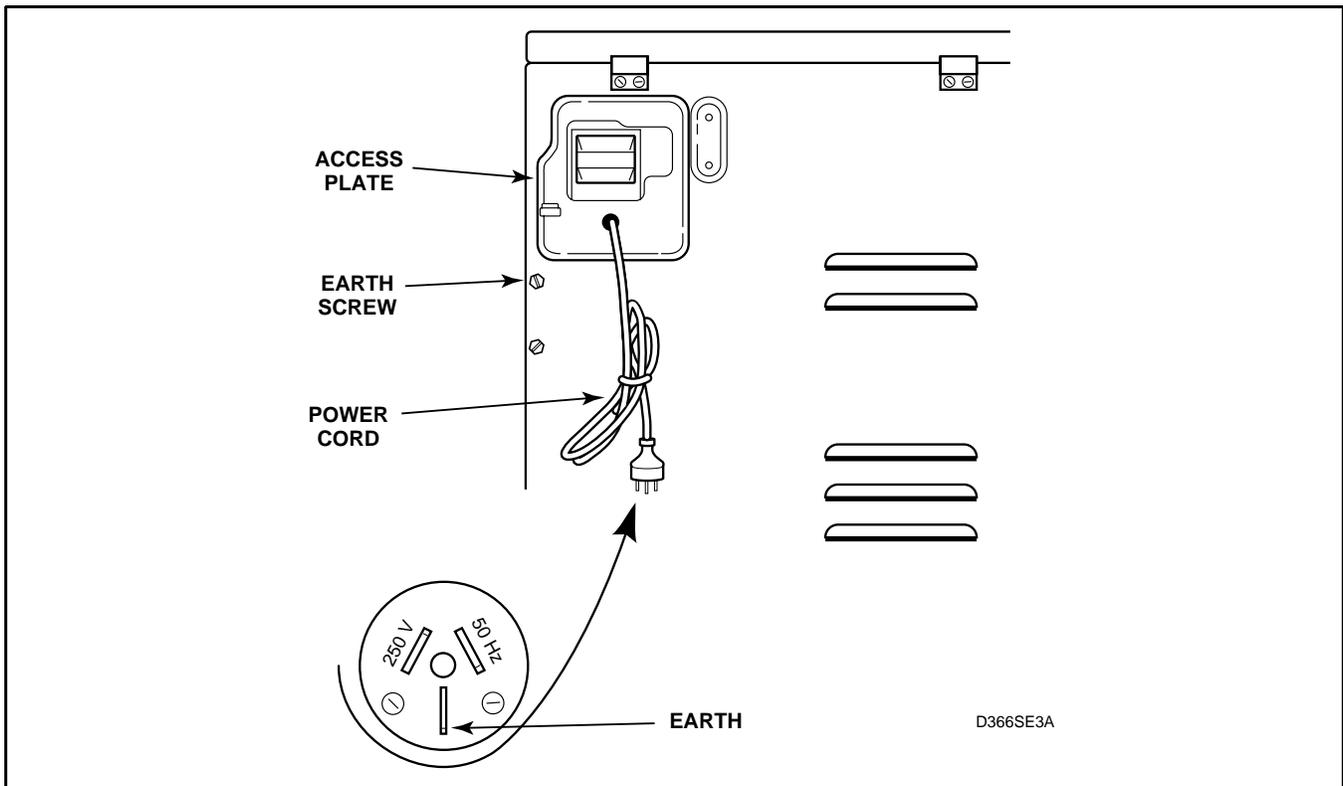

Figure 35
See *Figure 35*.
- (4.) Remove power cord from rear of dryer cabinet. See *Figure 35*.